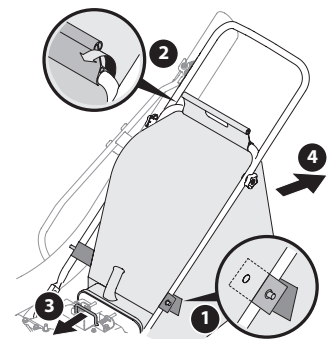

Figure 10
2. Unsnap bag clip from the top of lower handle. See Figure 10.